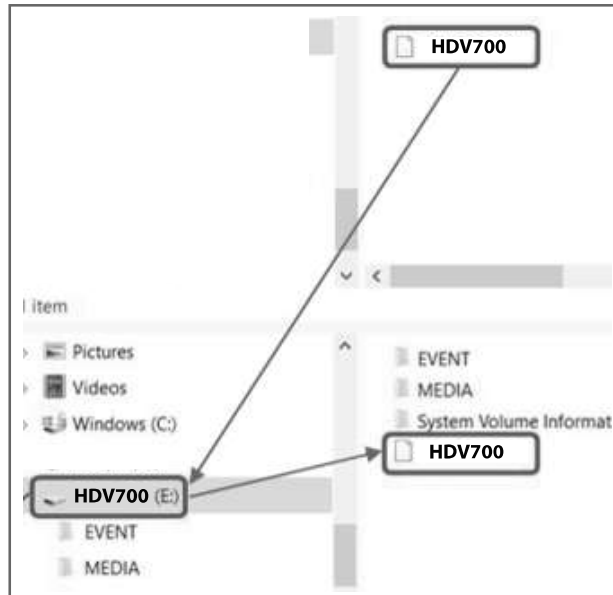

Figure 10.4 Windows PC example: Moving the update file to the HDV700 root directory.
3. Drag the downloaded firmware file from your PC to the root (top level) directory of the HDV700 as shown in the Windows example below in Figure 10.4.